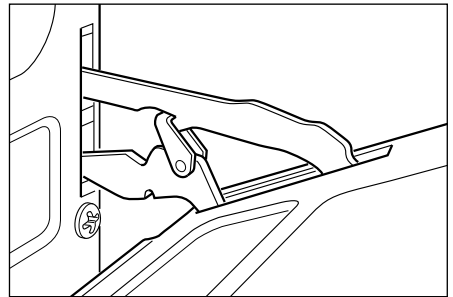

Fig.37c
- 3 Lift the oven door slightly. The notch on the bottom of the hinge will disengage (Fig. 37c).